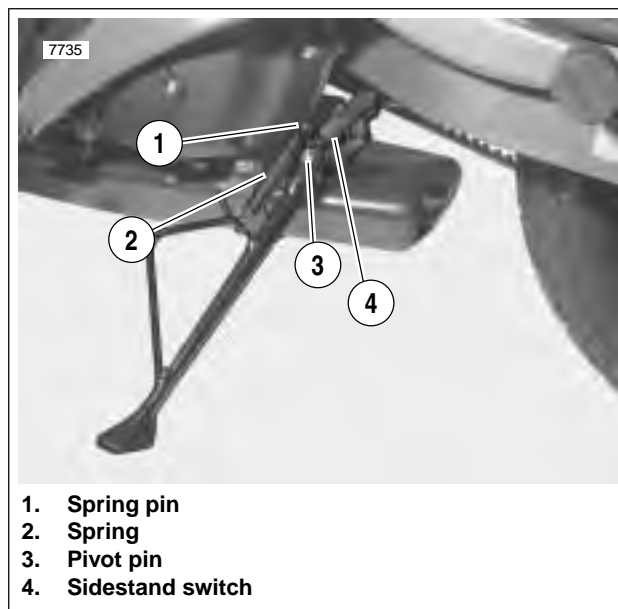

Figure 2-118. Sidestand
See Figure 2-118. The sidestand is located on the left side of the motorcycle. The sidestand swings outward to support the motorcycle for parking.
1. See Figure 2-118. Apply LITHIUM GREASE to pivot pin.